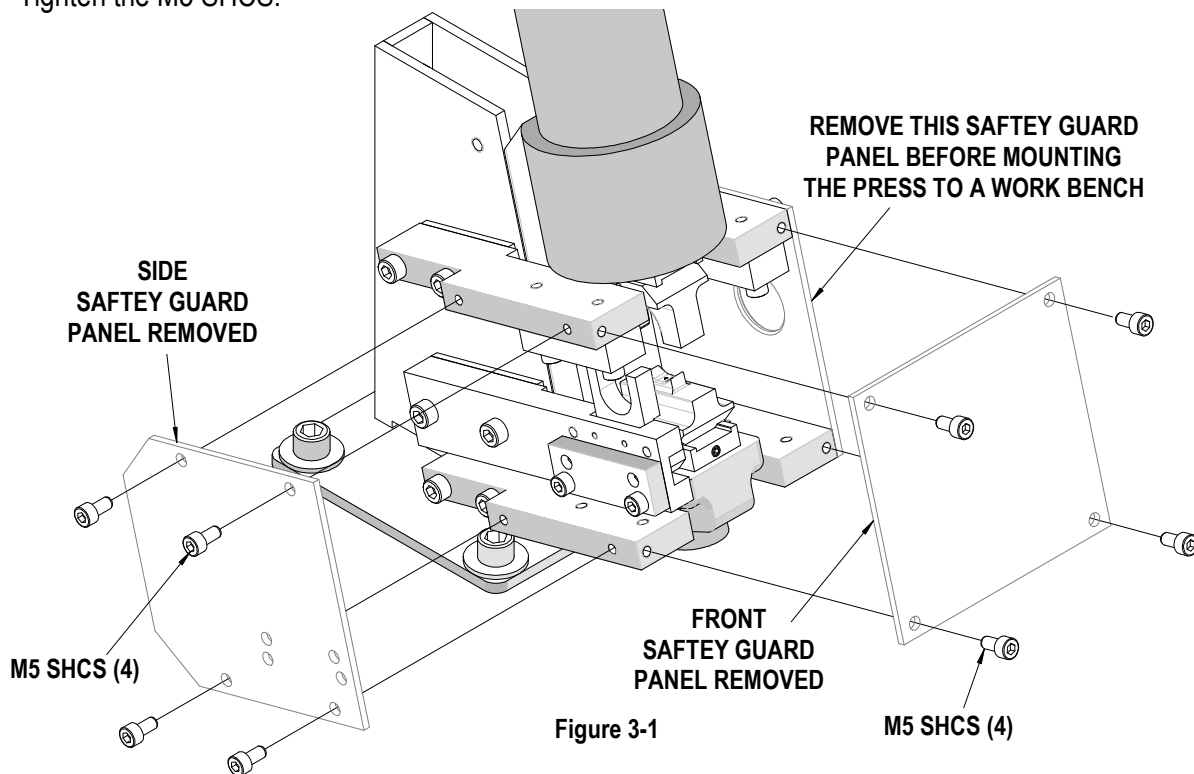

Figure 3-1
1. Remove the (12) twelve M5 SHCS holding the front and side safety guards.
2. Remove the safety guards. See Figure 3-1.